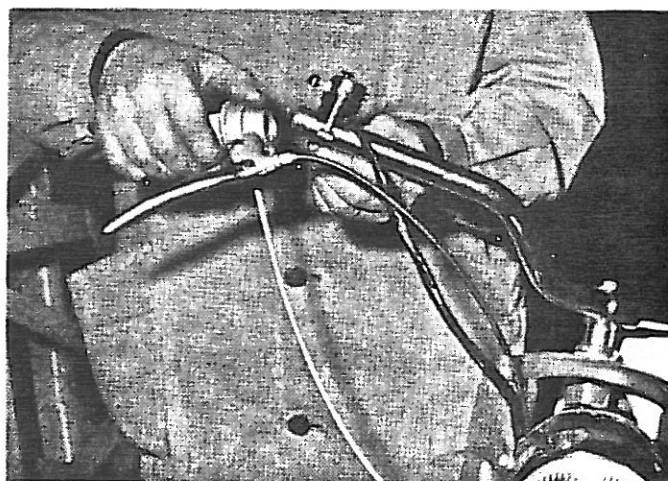

fig. 9
- d. Slip the horn, light and motor switch assembly over the right handlebar. Slip right grip over handlebar as far as it will go on. Do not tighten. (Fig. 9). It is necessary to turn the handlebar in the fork to the point where the grip will slide over the end of the handlebar with the cables attached.